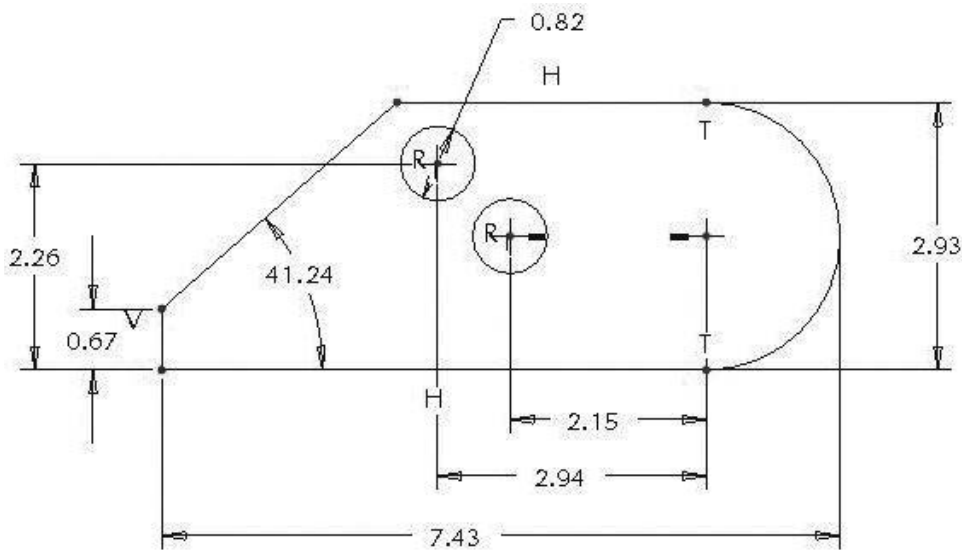

Figure 3-22 Add Dimensions
- Step 8:** Use  to dimension the sketch according to design intent. The first step is to dimension the figure per design intent as shown in Figure 3-22. Don't worry about the value of the dimensions yet.